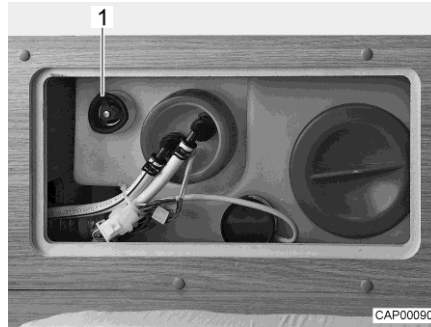

Fig. 64 Water tank with rotary handle
- Turn the rotary handle (Fig. 64,1) on the water tank in an anticlockwise direction as far as possible beyond the resistance to fully open the drainage opening.